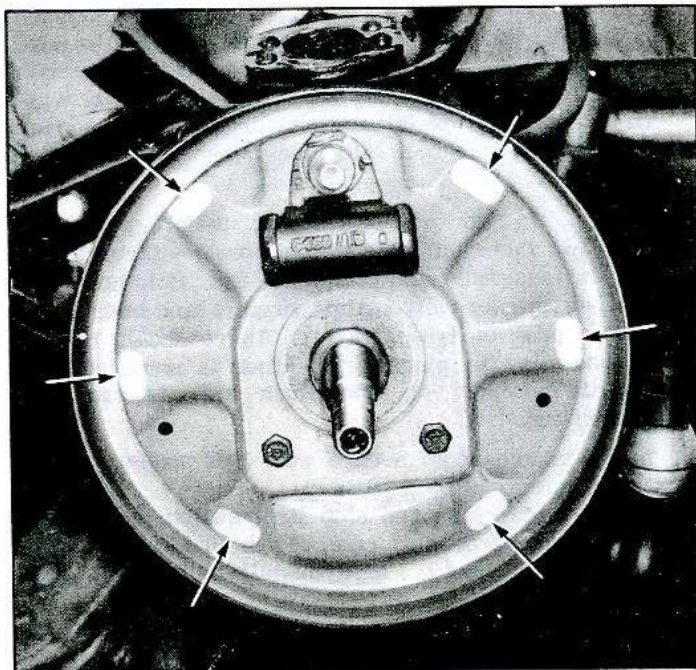

Fig. 20—Backing Plate Contact Surfaces
14. Pry shoes away from backing plate and lubricate shoe contact surfaces with a thin coating of brake lubs (fig. 20).